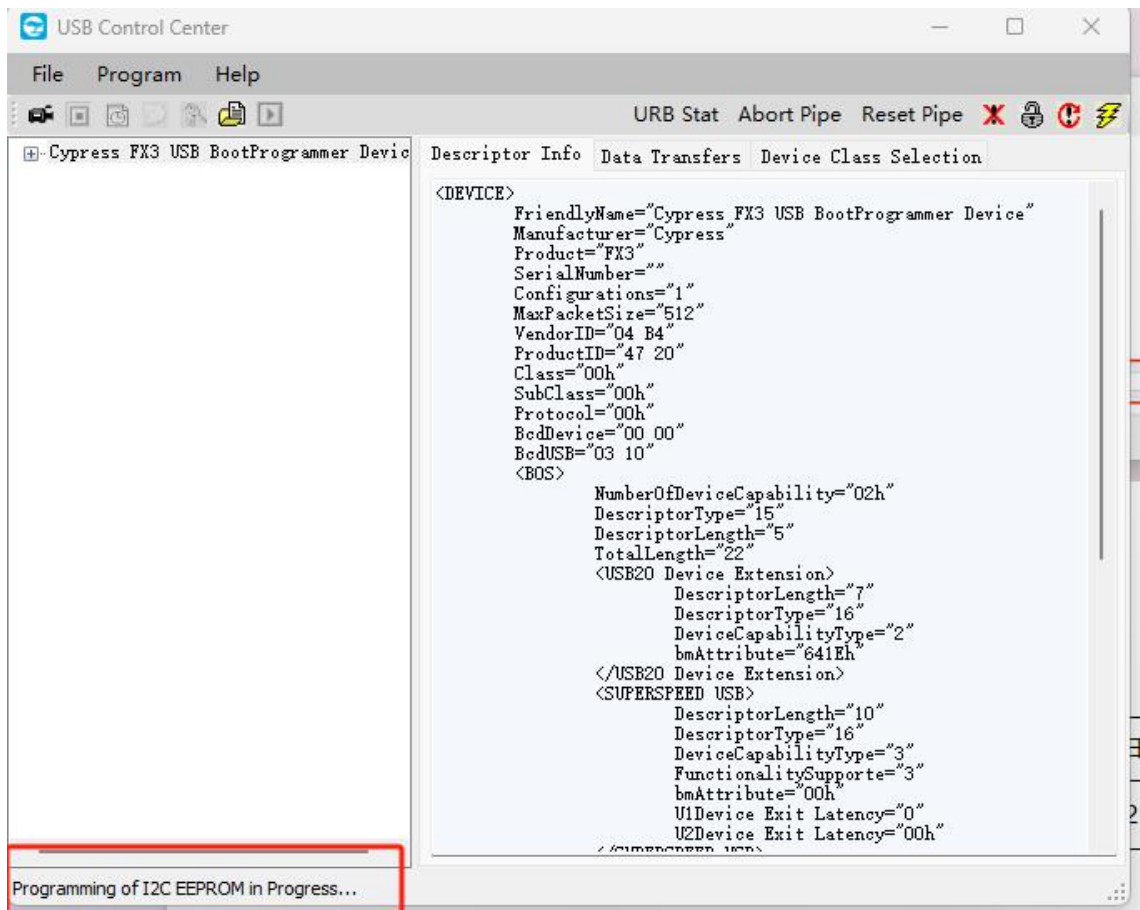
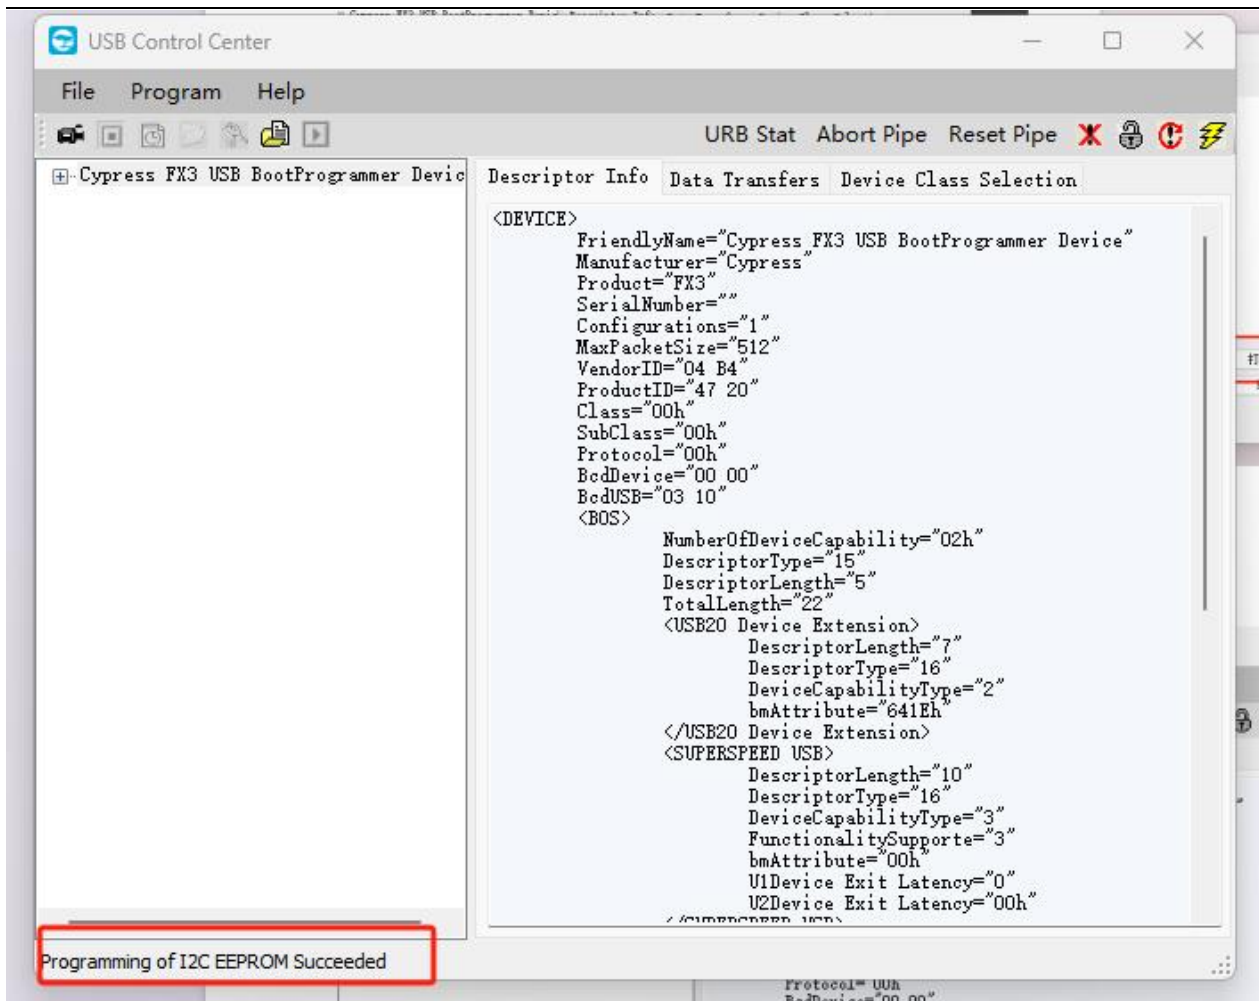

Figure 1-29
Figure 1-30
Step 5: After selection, "Upgrading" will be displayed in the lower left corner as shown in Figure 1-29. Wait until "Succeeded" is displayed as shown in Figure 1-30, which indicates that the upgrade is successful.